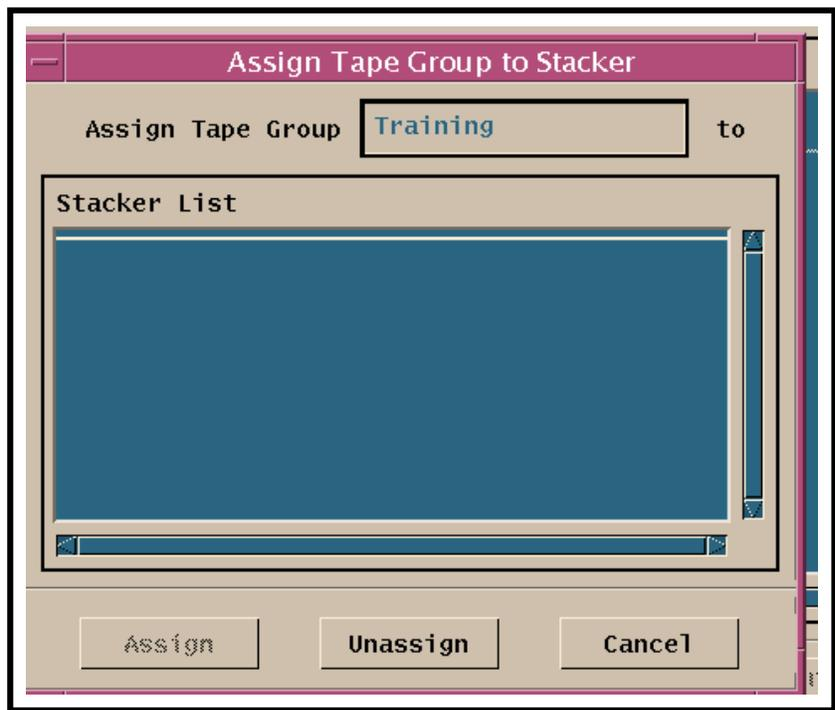

Figure 18. Assign Tape Group to Stacker Window (Storage Management Control GUI)
- The **Assign Tape Group to Stacker** window (Figure 18) is displayed.